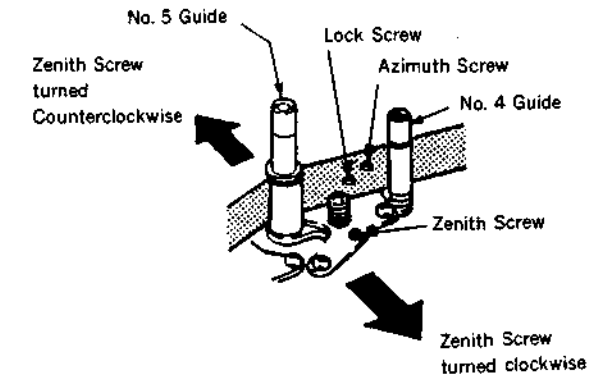

Fig. 1
- (1) Turn the No. 4 and No. 5 Guides counterclockwise to free the tape path at the exit side. (fig. 1)
After adjustment, tighten the lock screw clockwise.(fig. 1)